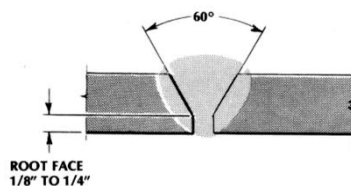

Figure 3.2. The single-V butt joint has an included angle of approximately 60° and a root face of 1/8" to 1/4"
3.2 The **single-V butt joint** is preferable on material ranging in thickness from 3/8" to 1/2" in order to achieve complete penetration. The included angle of the V should be approximately 60° with a root face of about 1/8" to 1/4". See Figure 3.2